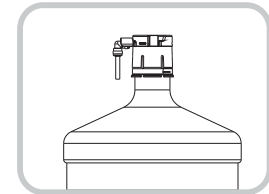

Fig.1
D. Slide the Collar onto the bottle neck until it clicks in place (Fig. 1)